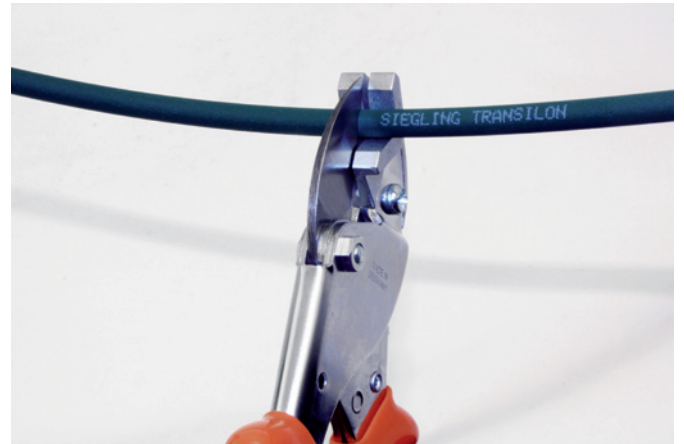

Fig. 1
- 1 Cut the TRANSILON round belt to length with the special scissors (Fig. 1), paying attention to achieving perpendicular cut faces.